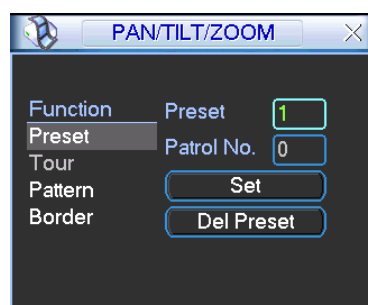
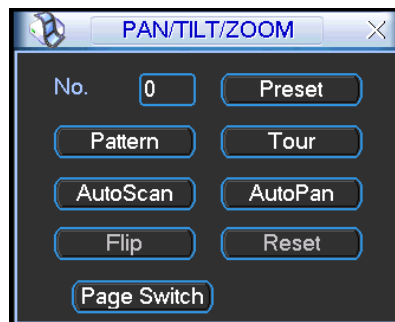
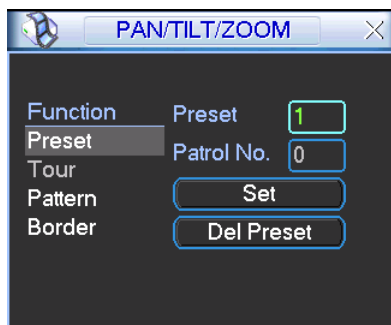

Figure 4-45
Figure 4-46
Figure 4-47
In Figure 4-42, please click the "set" button. The interface is shown as below. See Figure 4-45.
In Figure 4-42, click page switch button, the interface is shown as in Figure 4-46.
- The following setups are usually operated in theFigure 4-42, Figure 4-45 and Figure 4-46.
In Figure 4-45, click preset button and input preset number. The interface is shown as in Figure 4-47.
In Figure 4-46, please input preset number in the No. blank, and click preset button.
In Figure 4-45, input patrol (tour) number in the No. blank and click patrol button
In Figure 4-45, click pattern button and then click “begin” button. The interface is shown as in Figure 4-49. Then you can go to Figure 4-42 X to modify zoom, focus, and iris.
In Figure 4-46, click “Auto Scan” button, the system begins auto scan. Correspondingly, the auto scan button becomes Stop button. Click stop button to terminate scan operation.
In Figure 4-46, click page switch button, you can see an interface is shown as below. See Figure 4-51. Here you can set auxiliary function. The aux value has relation ship with the Aux button of the decoder.